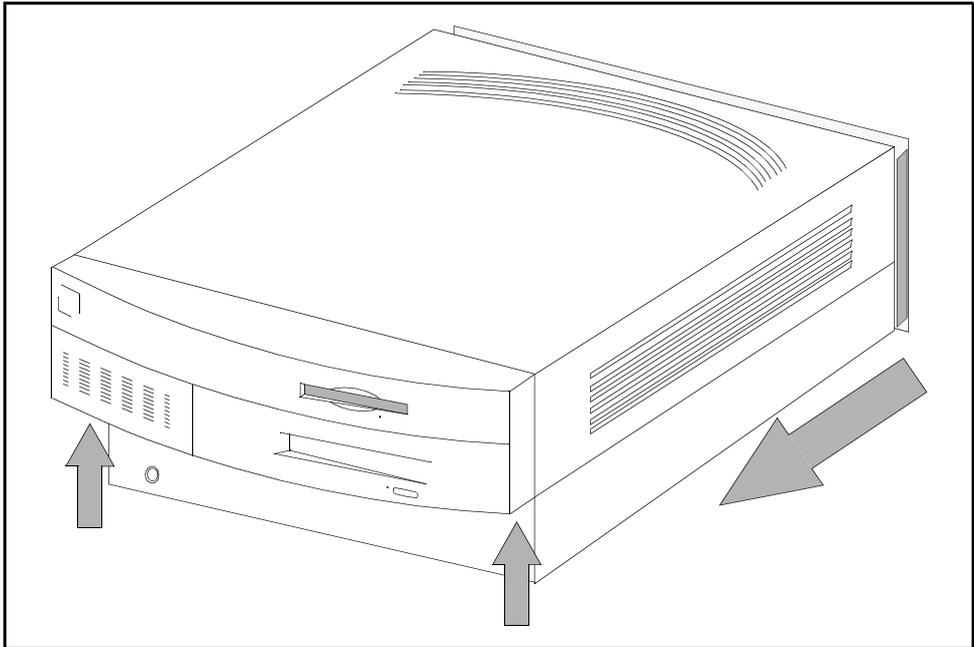

Figure 2.5 - Releasing the Cover
3. Press the two release buttons under the front panel and simultaneously slide the cover forward about two inches (refer to Figure 2.5).